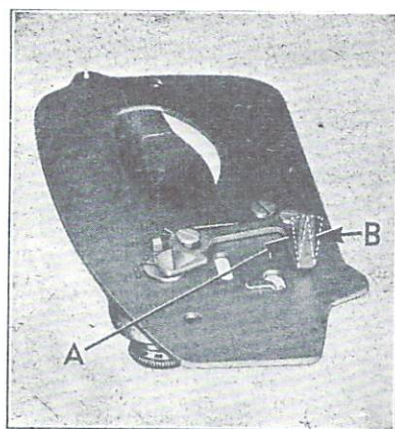

Fig. 60
If tension is still too loose after completely tightening the tension nut, remove face plate, and bend tension release lever approximately 1/16 inch (A) (Fig. 60) to left viewed from the bottom of face plate on reverse side.
If there is too much tension on thread, move tension release lever to right 1/16 inch (B) (Fig. 60).